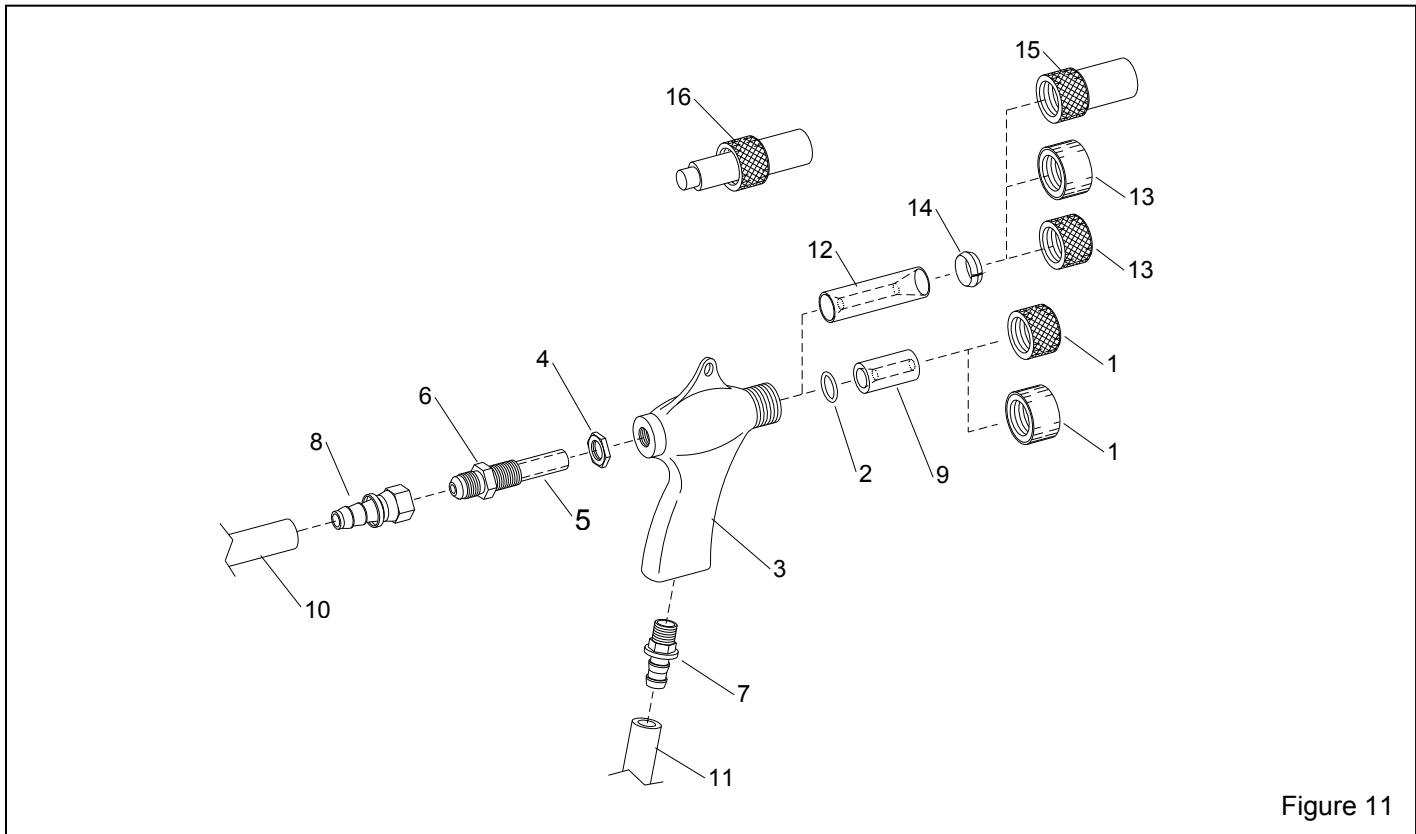

Figure 11
9.3 BNP Gun and Feed Assembly, Figure 11